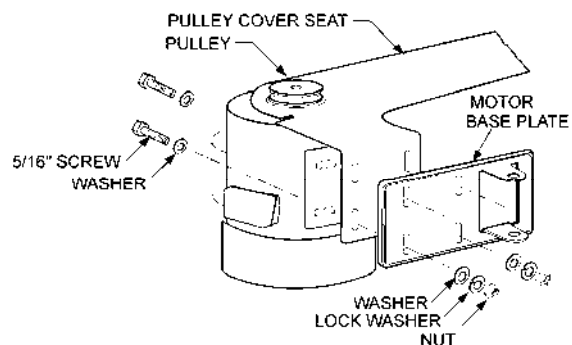

Figure 13
3. Lay the pulley cover seat on the motor as shown in figure 13.
4. Install motor base plate with four 5/16-18 x 1 hex head screws, four 5/16 flat washers, four 5/16 lock washers, and four 5/16 nuts, with the screw heads on the motor side, as shown in Figure 13. Slightly tighten two of the nuts to temporarily secure components.